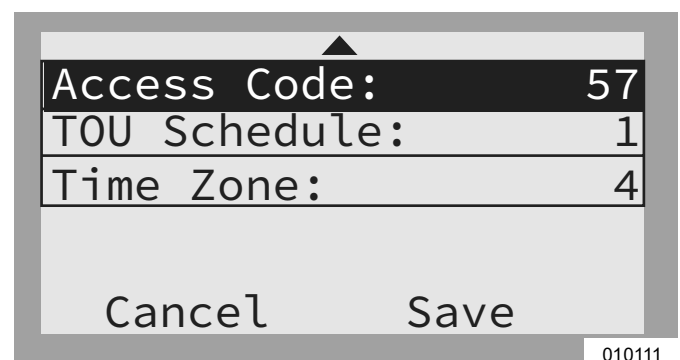

Figure 6-13. Configuring TOU Schedule (3 of 4)
- See Figure 6-13. Use the up and down arrows to highlight Access Code and press the center button to select.